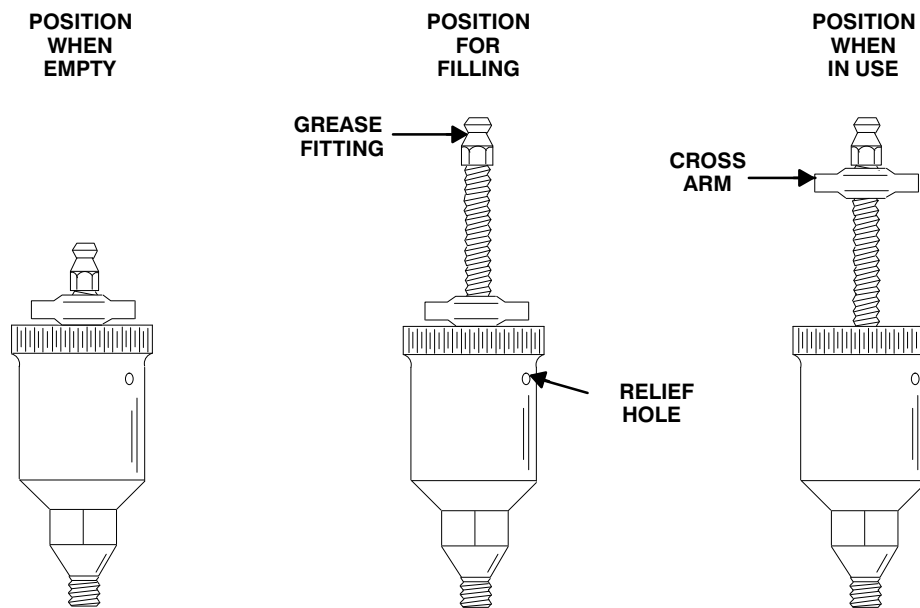

Figure 4. Automatic Lubricating Grease Cup
Before removing the impeller, turn the cross arm on the automatic grease cup (8) clockwise until it rest against the cover (see Figure 4). This will prevent the grease from escaping when the impeller is removed. Remove the grease cup and piping (8, 9 and 10).
with No. 2 lithium base grease until grease escapes from the relief hole. Turn the grease cup arm counterclockwise until it is at the top of the stem; this will release the spring to apply grease to the seal (see Figure 4).